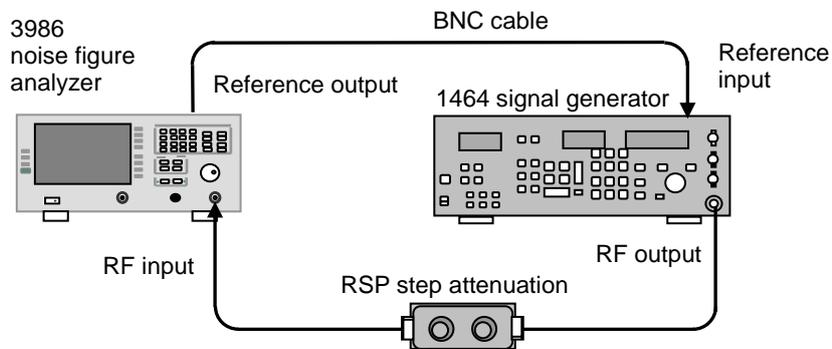

Figure 8.4 Test Block Diagram of Noise Figure Measurement Range and Measurement Uncertainty
**Step 1.** Connect the test equipment as shown in Figure 8.4 and warm it up for 30 min.